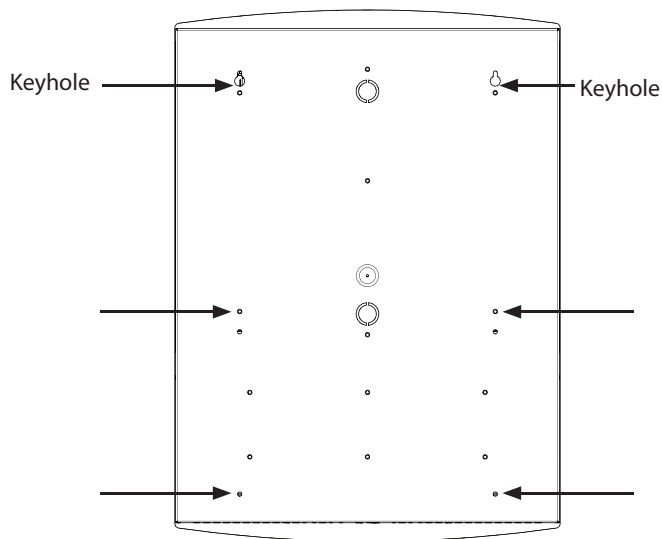

Figure 2: Location of the mounting holes
2. Using the enclosure as a template, mark the back mounting locations of the two keyholes as shown in Figure 2. Ensure that at least one side is over a wall stud.